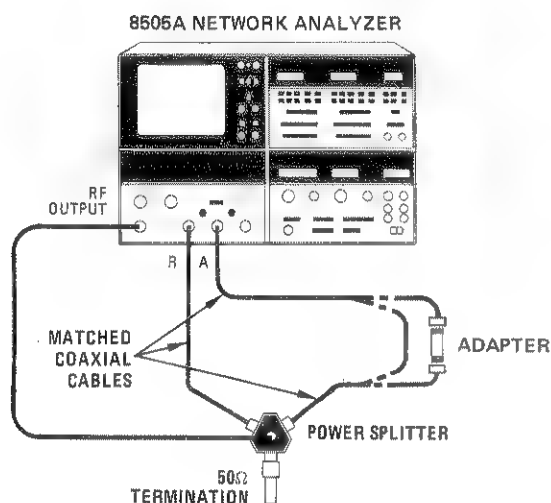

Figure A2-20. Phase Accuracy Test Setup
- b. Connect equipment as shown in Figure A2-20 with two 24-inch matched cables connected in series between Port "A" and the 3-way power splitter.